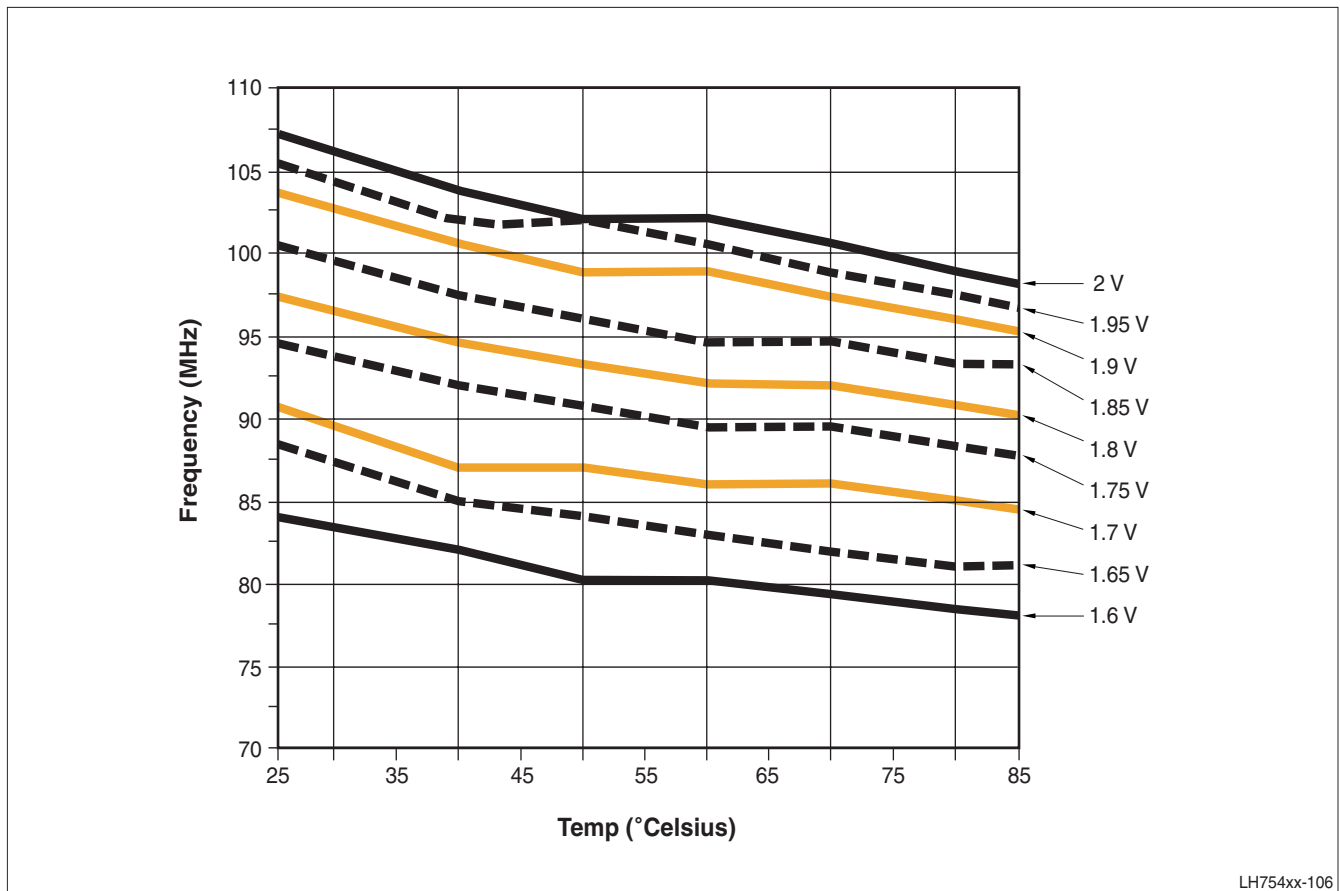

Figure 5. Maximum Core Frequency versus Voltage and Temperature
4. Additional performance may be achieved in accordance with Figure 5.